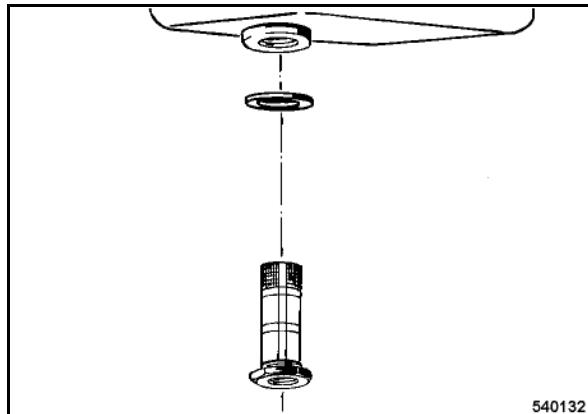

Fig. 54 □
- Unscrew the fuel screen (Fig. 54) and clean it with gasoline.